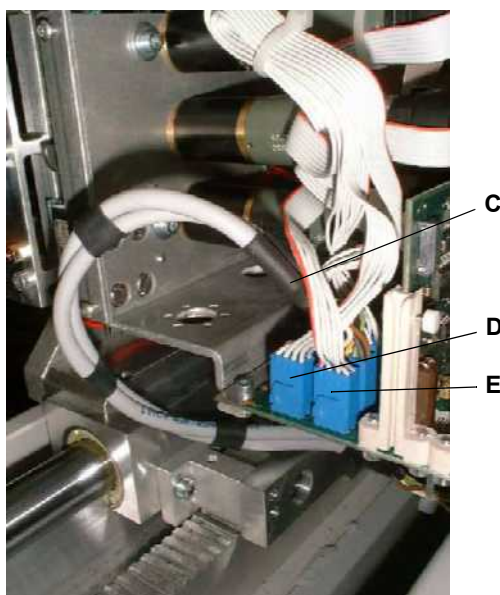

Fig. 8-100 Motor cables
- Do not confuse the motor connectors (see Fig. 8-100, Fig 8-86).